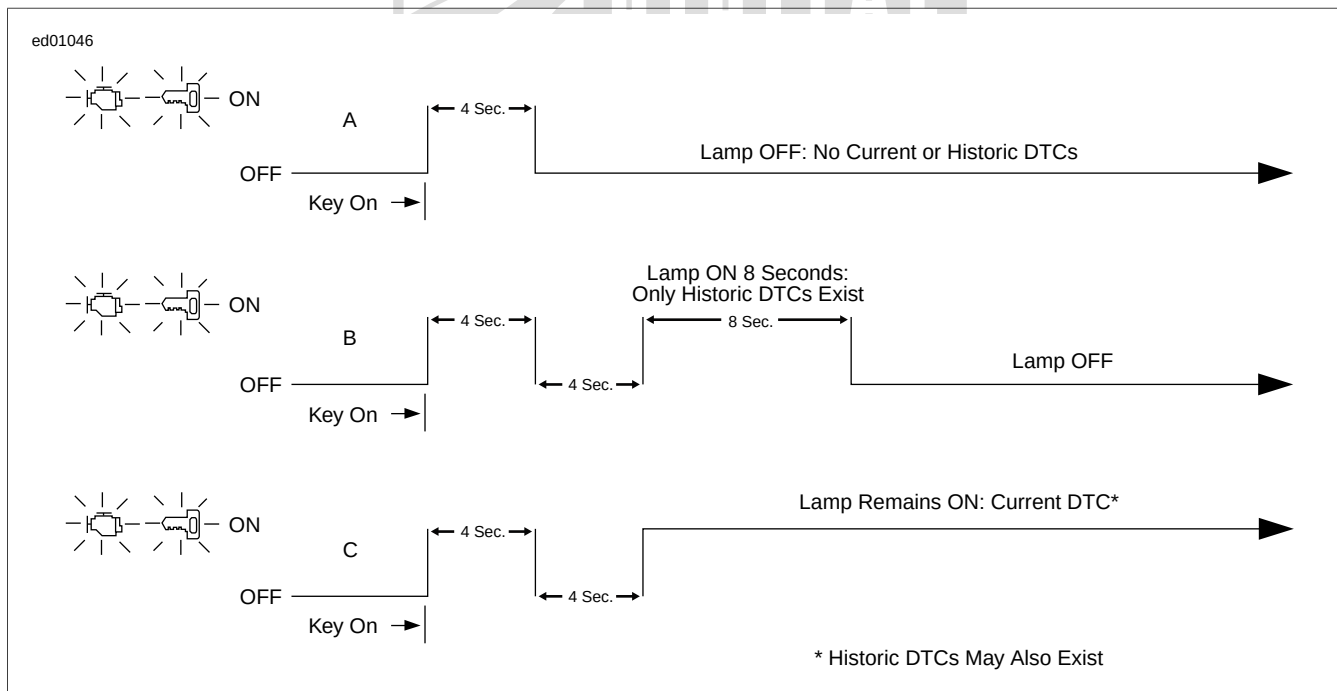

Figure 2-3. Check Engine and Security Lamp Operation
1. See Figure 2-3. After the check engine lamp turns off following the first four-second illumination period, one of three events may occur:
See Figure 2-3. To diagnose Turn Signal Security Module (TSSM) or Hands-Free Security Module (HFSM) system problems, begin by observing the behavior of the security lamp (4).
- See Figure 2-3. "Key ON" means that the Ignition Switch is turned to IGNITION and the Engine Stop Switch is set to RUN (although the engine is **not** running).
- See Figure 2-3. After the security lamp turns off following the first four-second illumination period, one of three events may occur: